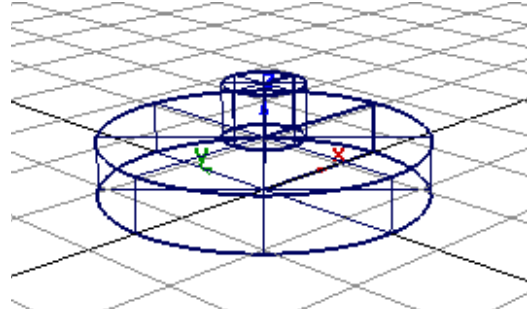

Figure 2-104 Model after scaling the stand
2. Enter **75, 75, 50** in the promptline; the stand is scaled, as shown in Figure 2-104.